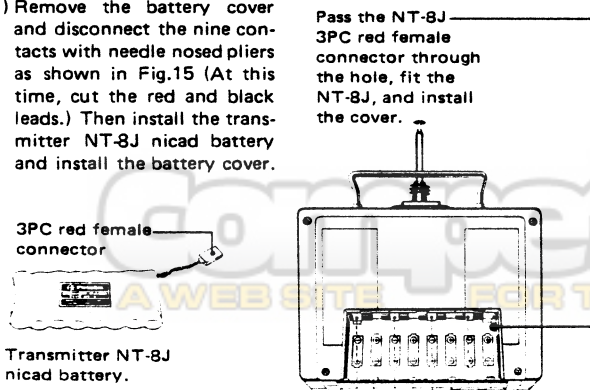

Fig. 15 Remove the contacts indicated by the dotted lines.
- (1) Remove the battery cover and disconnect the nine contacts with needle nosed pliers as shown in Fig.15 (At this time, cut the red and black leads.) Then install the transmitter NT-8J nicad battery and install the battery cover.